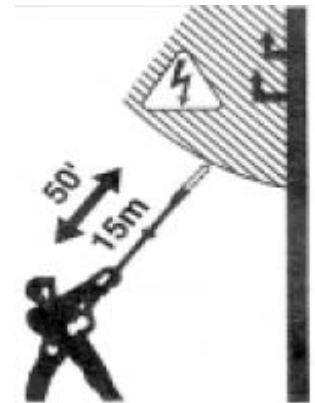

Figure 13
- To protect yourself from electrocution, do not operate within 50ft. of overhead power lines (**Figure 13**).